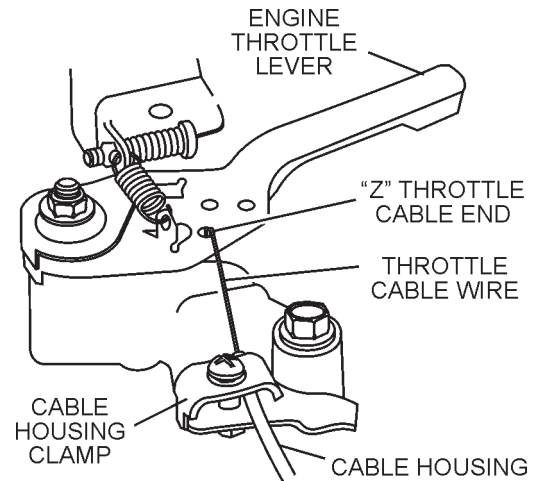

Figure 7. Throttle Cable Connection
2. Connect the throttle cable to the engine. (Figure 7). (The air cleaner housing may have to be removed to provide access for throttle cable installation.) When connecting the cable housing, make sure that no more than **1/4" (6.4mm)** of the cable housing protrudes past the housing clamp on the engine.